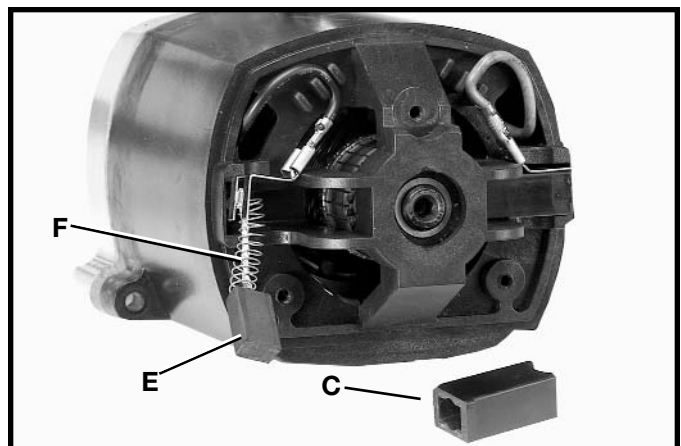

Fig. 45
4. Fig. 45 illustrates one of the brushes (E) removed from the holder (C). When the carbon on either brush (E) is worn to 3/16" in length or if either spring (F) or shunt wire is burned or damaged in any way, replace both brushes. If the brushes are found to be serviceable after removing, reinstall them in the same position.